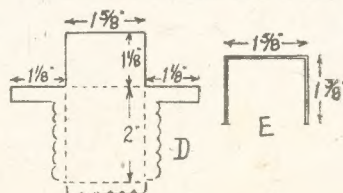

Fig. 5—Canopy details
A canopy over the seat is provided, and this should be in some gay colour to impart a touch of liveliness to the model. The canopy supports are bent up from stiff wire to the shape shown at (E) in Fig. 5. They bridge the well, the lower ends entering in holes bored in the top edges of the sides of the boat, at 2 ins. apart.
Approximate dimensions of the canopy are given at (D) in Fig. 5. Make a paper pattern of this and try it over the supports, noting any amendments that may be necessary in size, and allow a trifle extra for narrow hems. Lay the pattern on the material and cut out. If you can obtain the assistance of a lady friend, the scalloped edges of the canopy would look much better if over-stitched or buttonholed. Fix the canopy to its supports with a few stitches where needed.